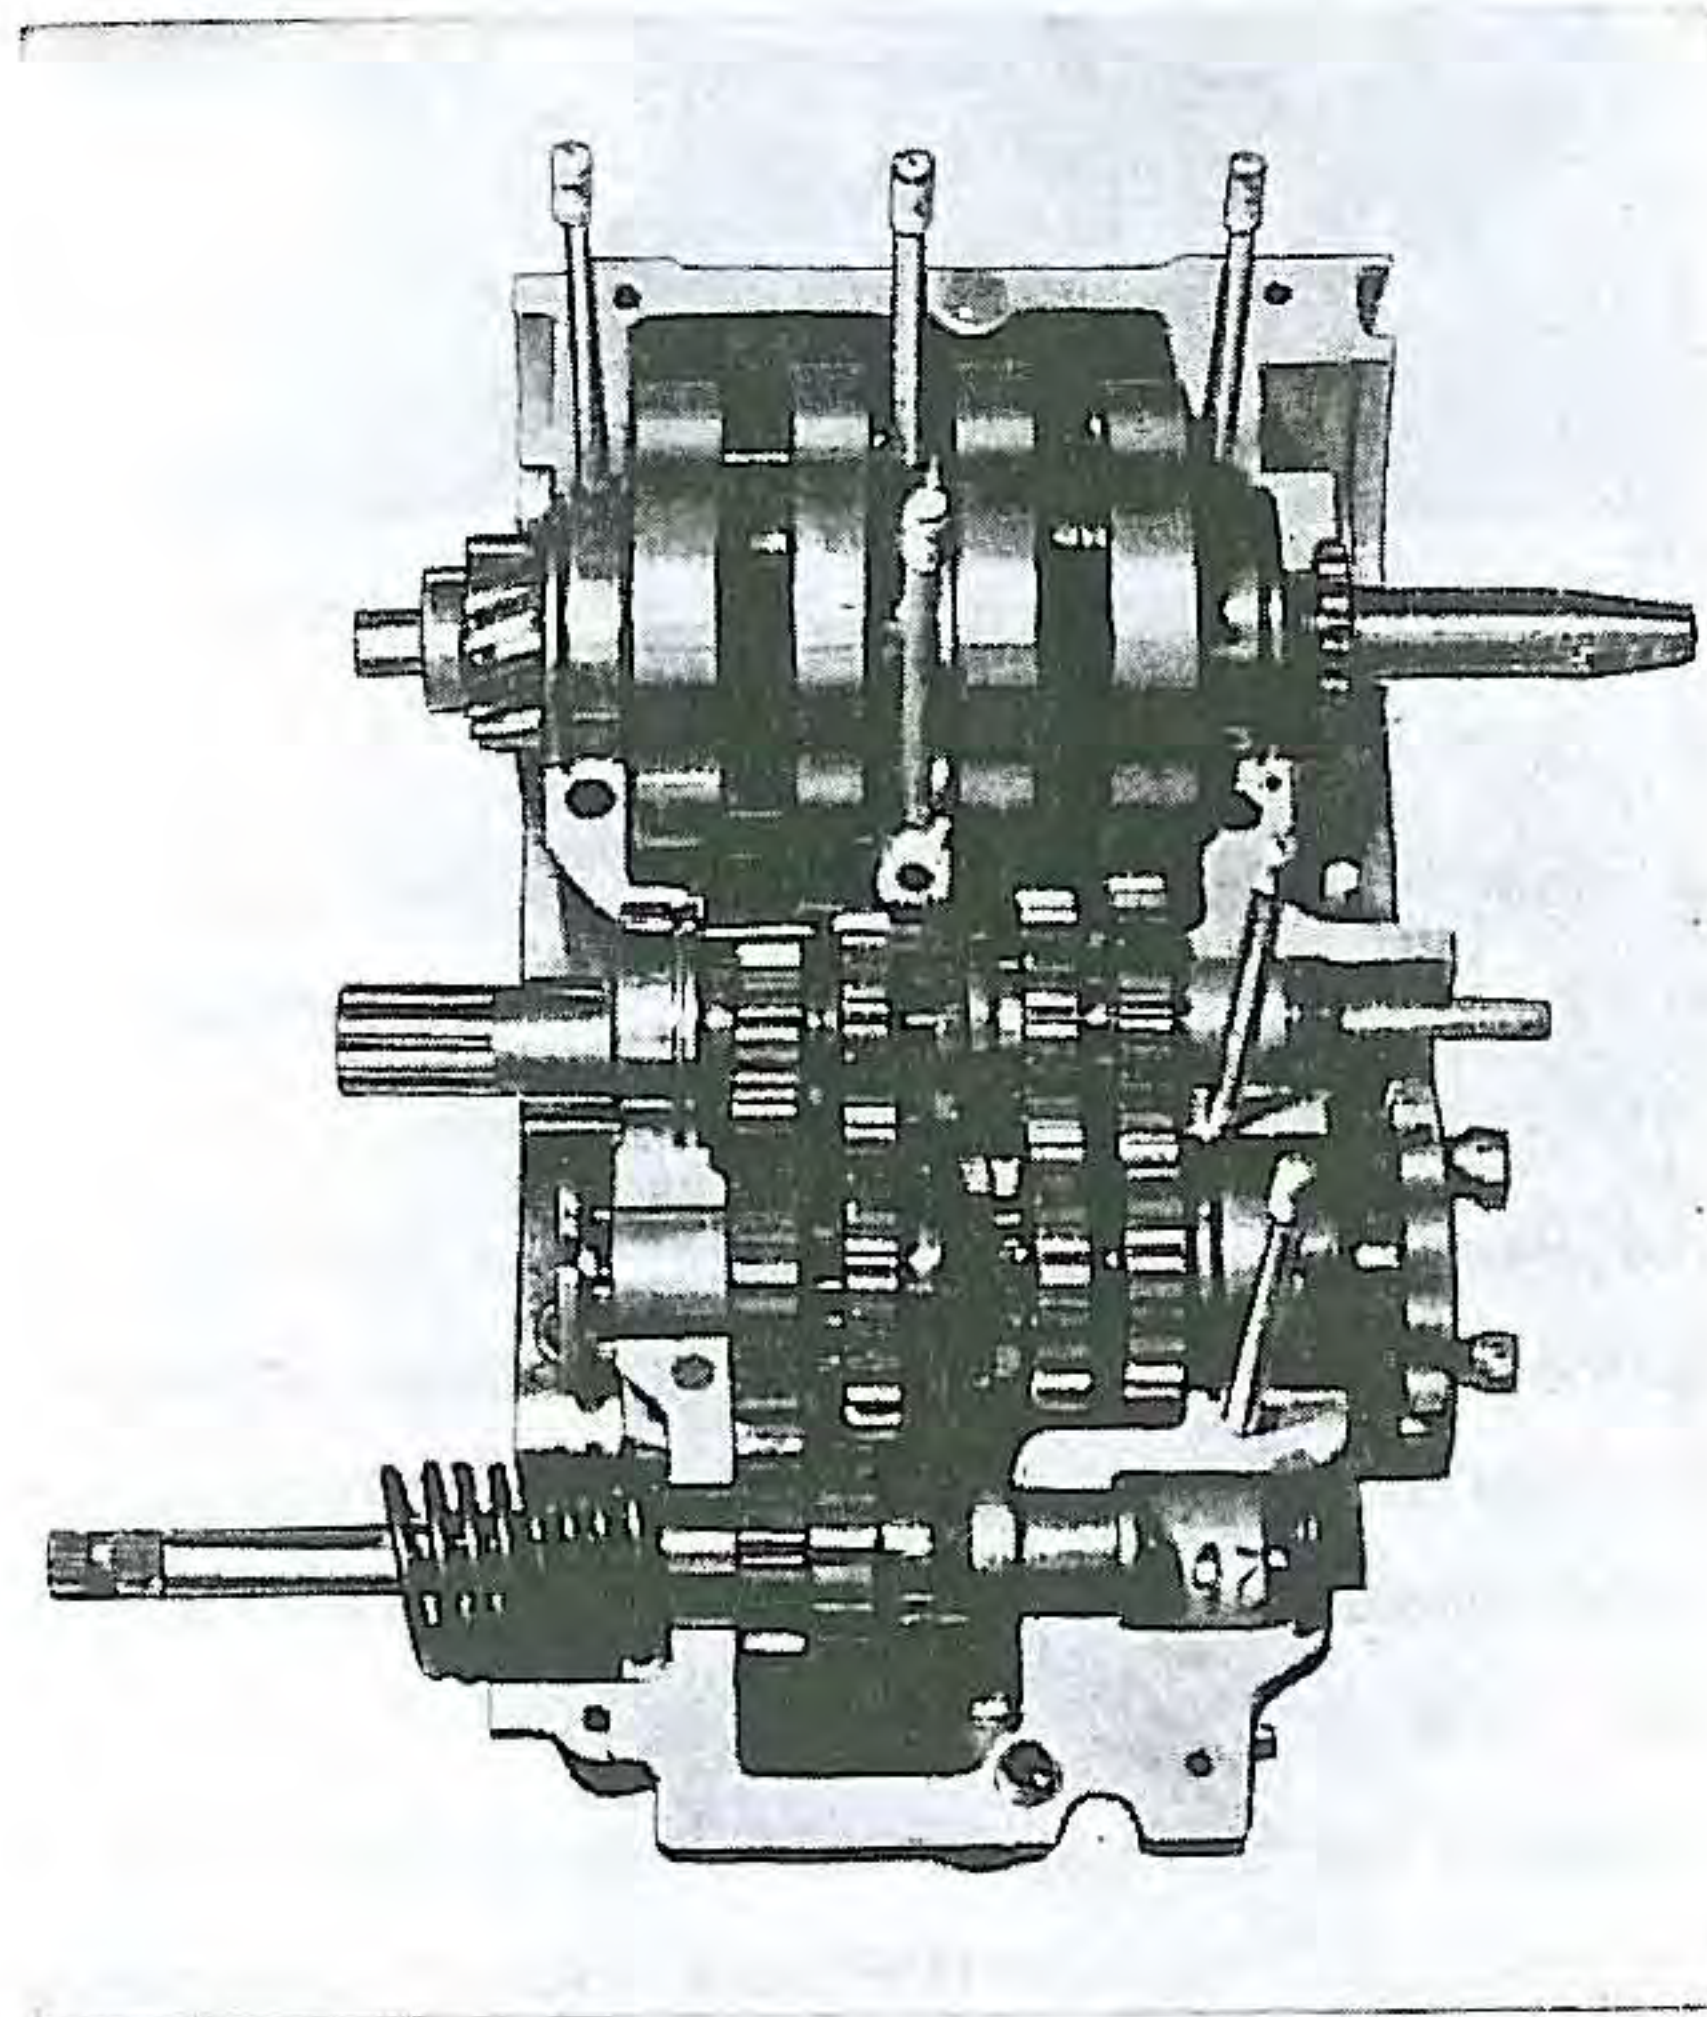
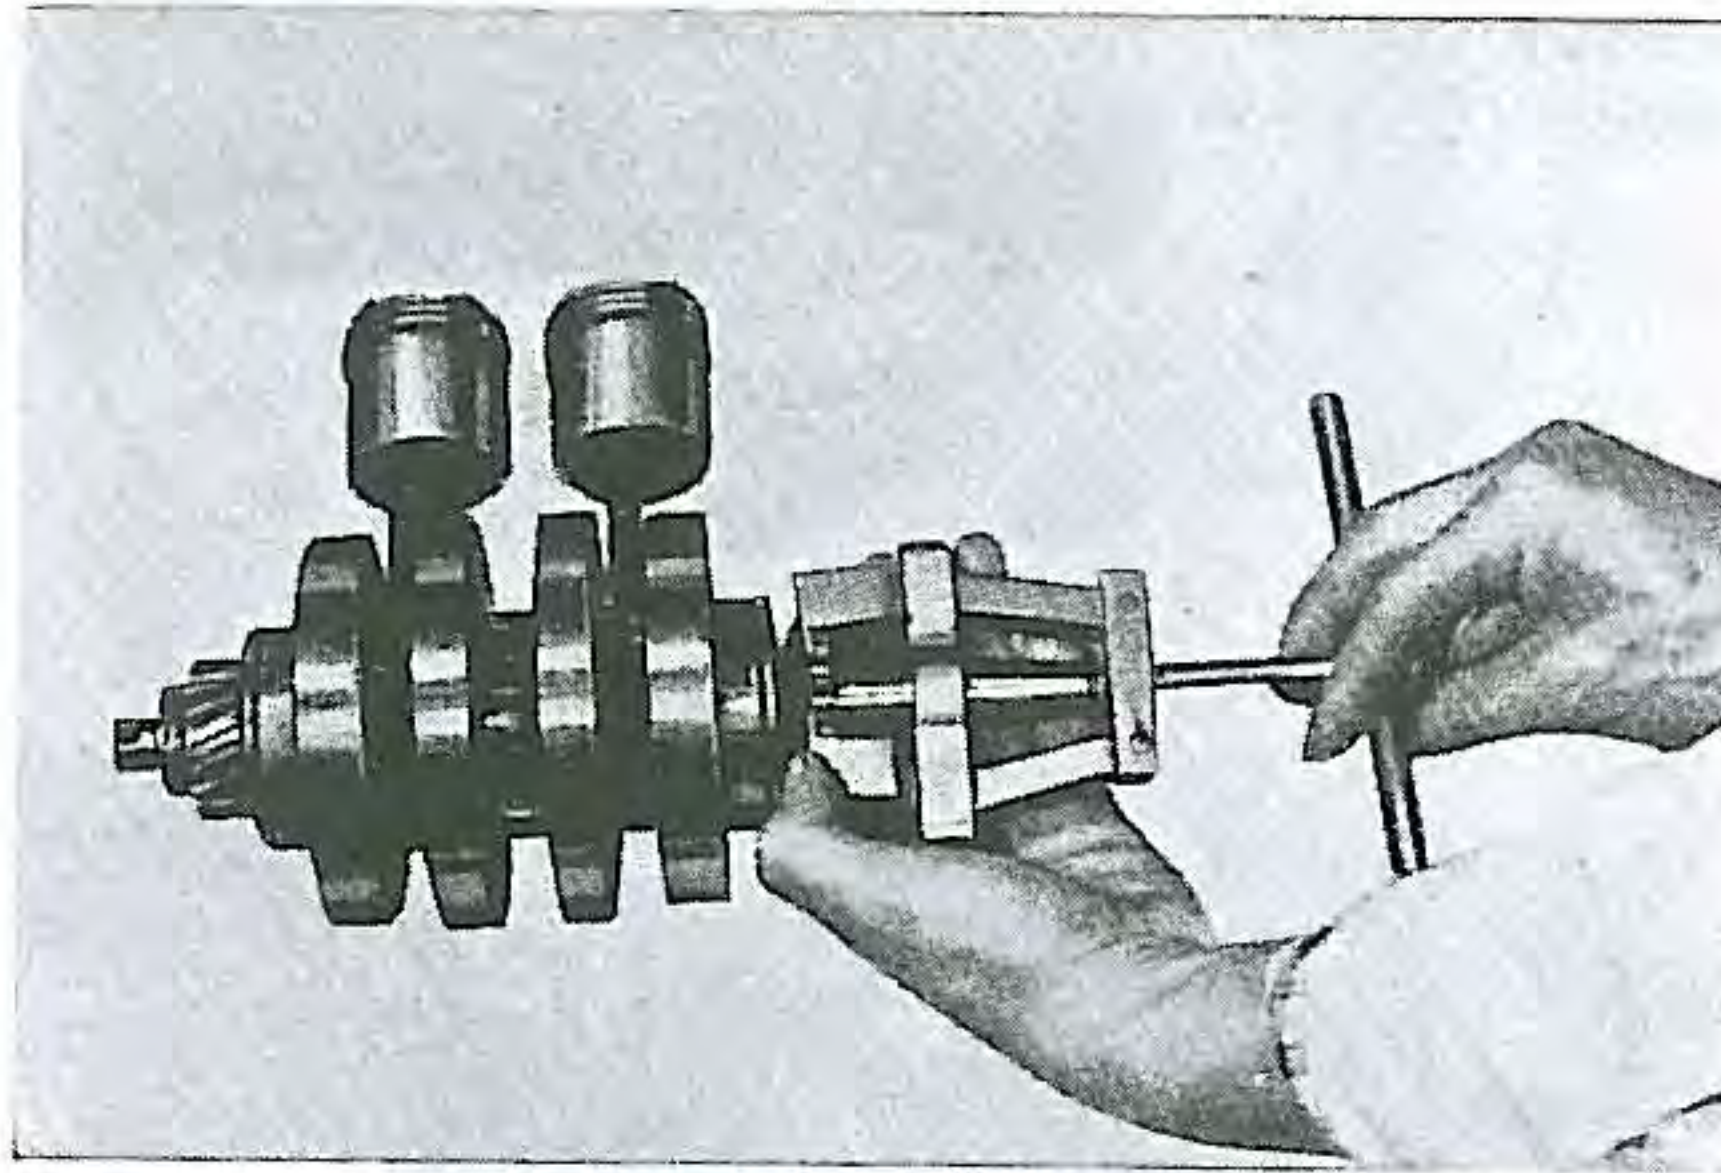

Fig. 66. Removal of under crank case
Fig. 67. Removing timing gear with extractor
- (3) Unscrew 3 (6 mm) and 2 (8 mm) nuts retaining the upper crank case.
- (4) Place the crank case upside down and remove 6 stud nuts, (8 mm) 2 stud nuts (6 mm) and 6 bolts (6 mm).
- (5) Remove the under crank case giving a gentle tap with wooden hammer. (Fig. 66)
- (6) Remove the crank shaft assembly.
- (7) Take out the timing gear with extractor. (Fig. 67)
- (8) With a small chisel and hammer, straighten the lock plate on the drive gear retaining nut. Remove the nut, lock plate, washer and gear.
- (9) Both side main bearings can be prised out by using a bearing extractor.